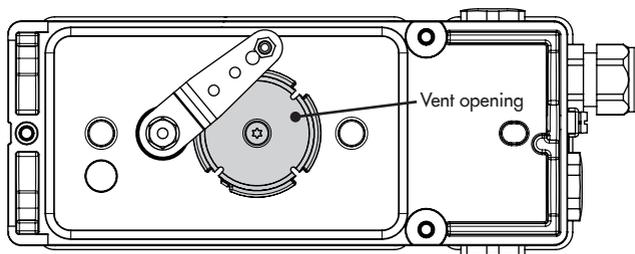

Fig. 5-2: Vent opening (back of the positioner)
- Do not seal or restrict the vent opening (see Fig. 5-2) when the device is installed on site.